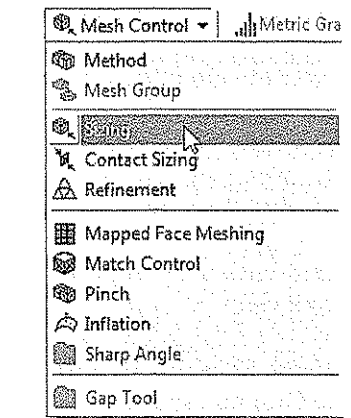

Figure 8-36 Choosing the Sizing tool from the drop-down
2. Choose **Mesh Control > Sizing** from the **Mesh** contextual toolbar, refer to Figure 8-36; **Sizing** is added under the **Mesh** node. Also, the **Details of “Sizing”** window is displayed and you are prompted to select faces, edges, or bodies to apply sizing controls.